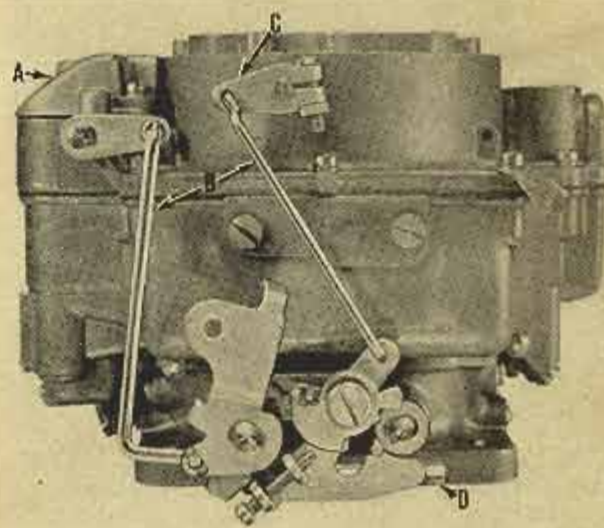

Fig. 1
1. Remove the metering rods dust cover, "A," Fig. 1. Disconnect the metering rods from the vacuum link by using a scratch awl or a pointed instrument and pushing outward on the eye of the rod and then extract the rod.
Unsnap the clips and remove the choke rod and the accelerator pump rod, "B," Fig. 1. Do not loosen or remove the choke shaft lever, "C," Fig. 1.
- B. Back off idle speed screw, "D," Fig. 1, approximately two turns so that the throttle valves seat in the bores of the flange body. Be sure pump